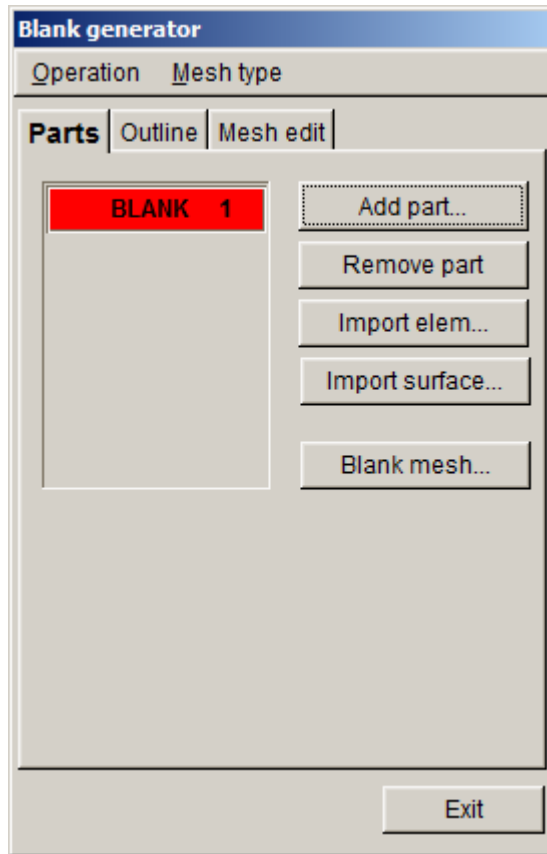

Figure 1.9 Blank generator
- After selecting the part, click **OK** button to return to the Blank Generator dialog box. As illustrated in Figure 1.9, the BLANK part has been added to the list of blank.